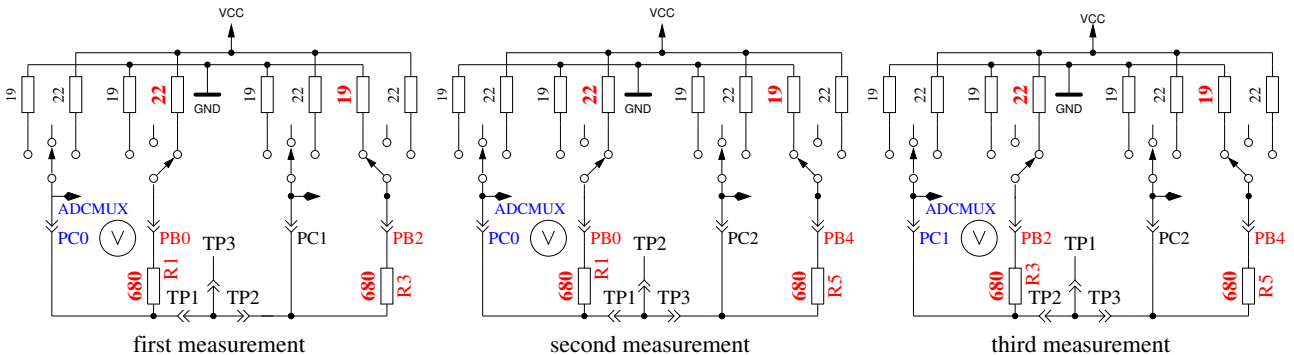

Figure 5.46: Comparison of 680Ω resistors
2. **Comparing of the 680Ω resistors.** In row 1 the cryptic text “+RL- 12 13 23” is shown. Meaning of this is as follows: The RL is the short form of Resistor Low meaning the 680Ω resistors. The 12 stand for: resistor at pin 1 is connected to VCC (+) and resistor at pin 2 is connected to GND (-). The result of this measurement is displayed in row 2 at the first place as difference to the theoretical value. In row 1 follows now a “13” which means, that the first connection of measurement 1 is still connected with 680Ω to VCC but that the resistor of pin 3 is connected to GND. The result is displayed in the middle place of row 2 as difference to the theoretical value. The last measurement of this test “23.” means that now the resistor at pin 2 is connected to VCC (+) and the resistor of pin 3 is connected to GND. The result of measurement is displayed at the last place of LCR row 2 as difference to the theoretical value. Please remember, that the resolution of the ADC is about 4.88mV! The measurement situation is also shown in figure 5.46. The theoretical value with respect to the internal resistance of the pins should be:  $\frac{5001 \cdot (19+680)}{(19+680+680+22)} = 2493$ .